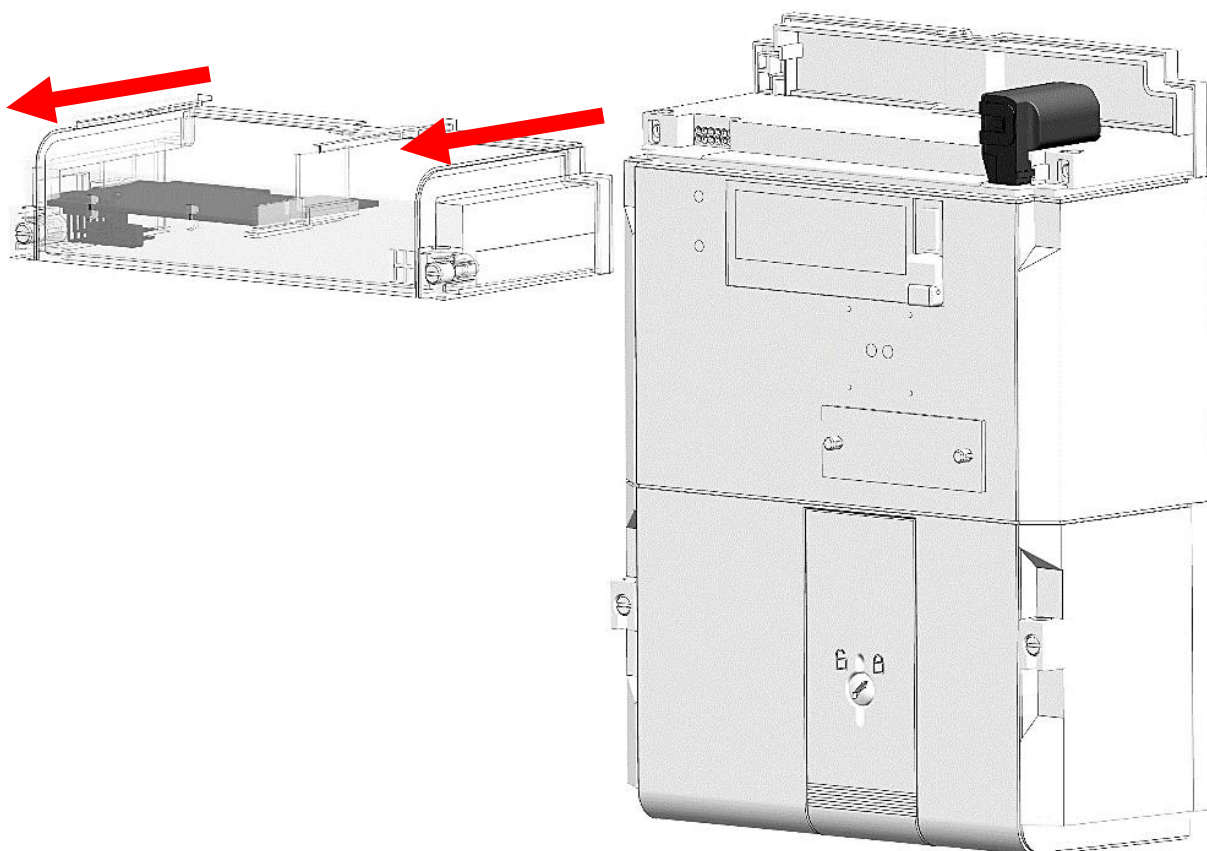

Figure 76: Replacing the communication module – step 2
3. Remove the module cover – slide it out from the base meter (Figure 76).